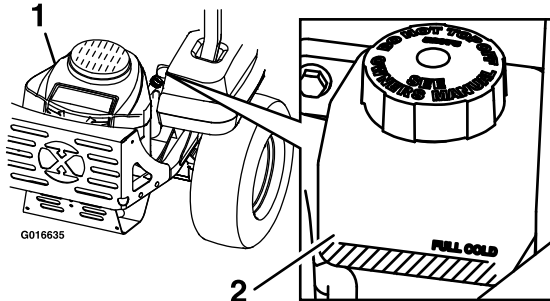

Figure 22
3. Check expansion tank and if necessary add Exmark Premium Hydro Oil to the FULL COLD line (see Figure 22).